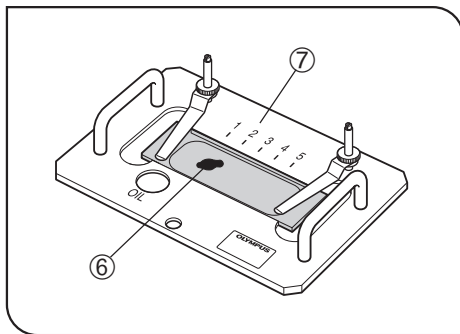

Fig. 9
Ⓞ When using the specimen holder for slide glass, memorize the map area indicator number ⑦ aligned with the position of the observation target ⑥ and use the same position in later observation/acquisition (Fig. 9).